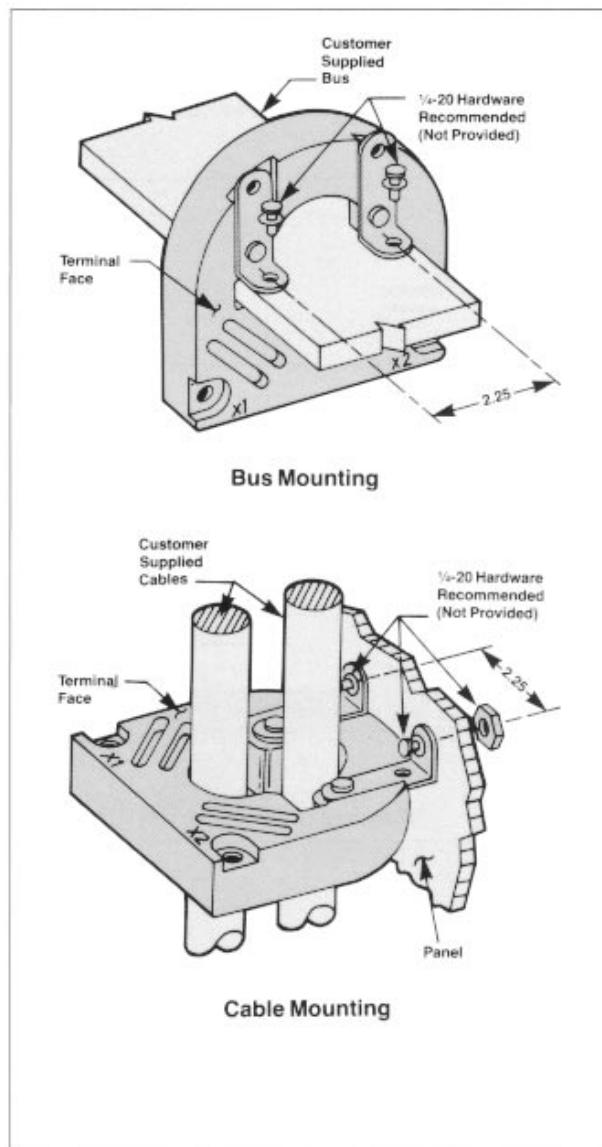

Figure 1
- G. Place bottom spring (11) over the bottom thin wall hex nut inside the enclosure door
- H. Turn the handle 1/4 turn clockwise (looking from inside the enclosure door) and attach the latch plate roller to the handle shaft, while inserting the bent leg of the spring into the hole in the latch plate. Fasten with a locking-type flange nut. Tighten the nut, then loosen 1/8 turn to allow movement of the roller assemblies (Figure 1).
NOTE: Straight leg of spring must rest against pin (12) on handle plate. See inset on Figure 1.
- I. Place top spring (13) over top thin wall hex nut. Attach lockout plate (14) to lockout screw using locking type flange nut. Tighten flange nut. Insert bent leg of spring into hole in lockout plate as shown in Figure 1 detail.
- J. Attach the interlock defeater lever (15) to the latch bar (16) with two #10 lockwashers and #10-24 screws.
- A. Position the neutral sensor within easy wiring range of the associated circuit breaker and fabricate two .312 diameter holes 2.25 inches apart in bus or panel, as shown in Figure 1. Orient L-Mounting brackets as necessary for the mounting configuration being used and secure to the neutral sensor with the hardware provided.